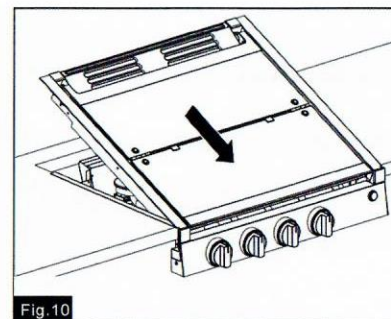
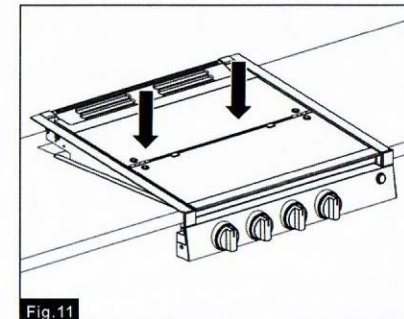

Fig.10
Fig.11
7. Align the top glass vover assembly with the slots and place it into the cooktop. (Figure 10 and Figure 11)